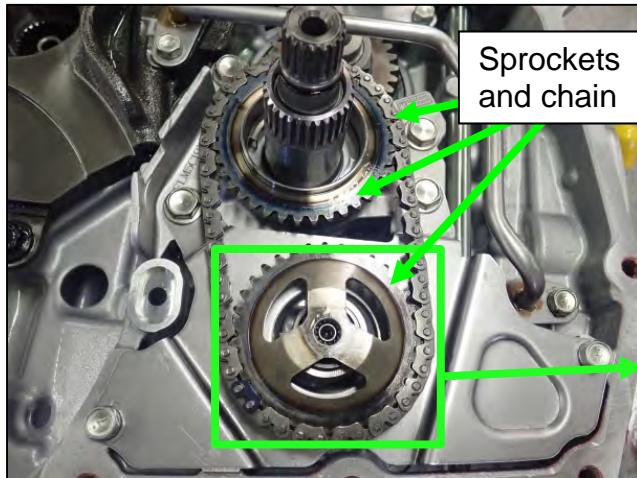
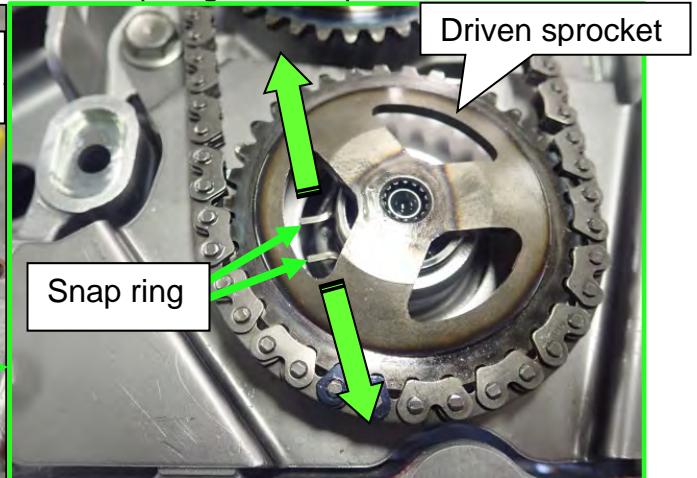

Figure 181
Figure 182
- 145....Install the oil pump chain onto the oil pump sprocket and the drive sprocket and then lower onto the oil pump shaft (driven sprocket) (Figure 181 and Figure 182).